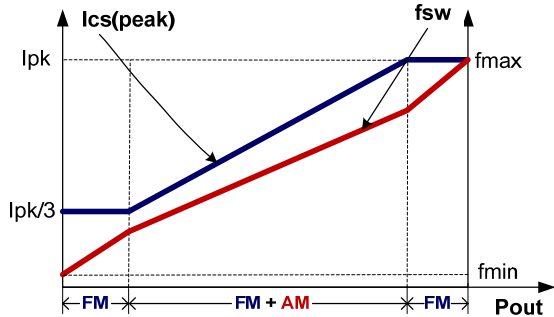

Fig.4
To meet the tight requirement of averaged system efficiency and no load power consumption, a hybrid of frequency modulation (FM) and amplitude modulation (AM) is adopted in KP213X which is shown in the Fig 4.